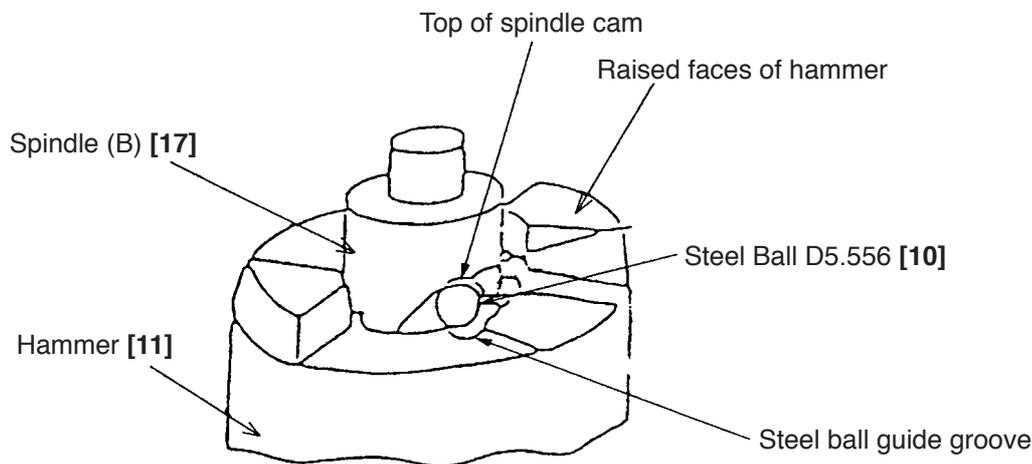

Fig. 9
(b) Align the top of the cam groove on Spindle (B) [17] with the steel ball guide groove on the Hammer [11] as illustrated in Fig. 9. Press down either of the raised faces of the Hammer [11] with a hand press to compress the Hammer Spring [14] until the end surface of the hammer contacts the flange of Spindle (B) [17].